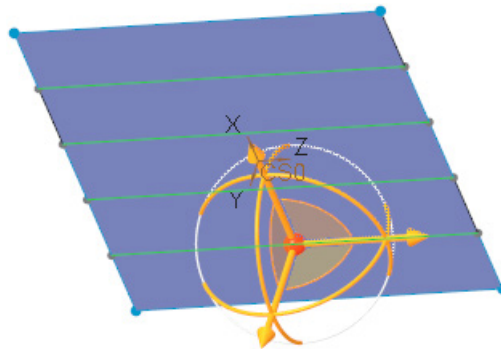

Figure 15-136 Surface created after using the 4 Splits option
2. Select the **4 Splits** option from the drop-down list; the surface is displayed, as shown in Figure 15-136.